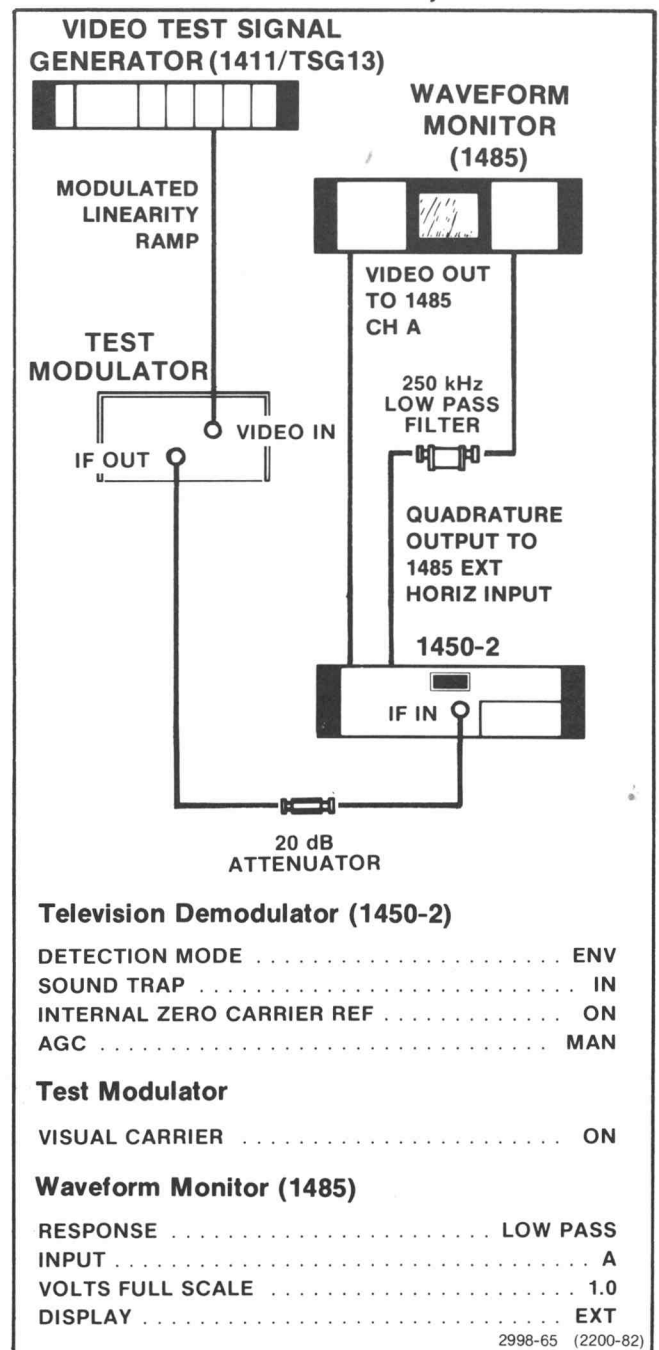

Fig. 4-50. Test Equipment Setup for Adjusting R00, R30, and R50 on A55; and L98 on A27.
(a) Connect the test equipment as shown in Fig. 4-50.
- (a) Connect the test equipment as shown in Fig. 4-50.